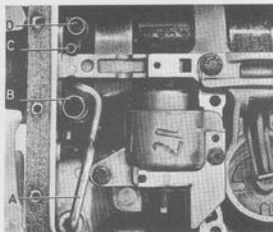

Fig. 4-127. Location of oil tubes, front of transmission
23. Fit the oil tubes for the pump and converter on the pump body, see Fig. 4-127. Do not forget the O-ring for the pump inlet tube.